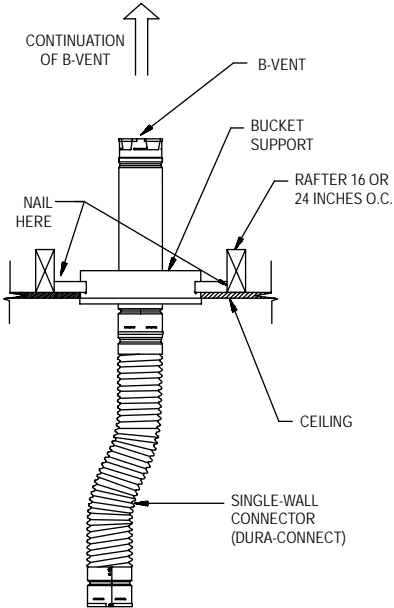

Figure 14
2. Assembly. After you have determined where the B-vent should be located, assemble the Bucket Support and Brackets. Nail the assembly to the bottom side of the joist material as shown in *Figure 14*. After the Support Bucket is in place, scribe and cut out a hole in the sheet rock 1/8" larger than the diameter of the Bucket, and nail into place. Run the Pipe Sections through the hole in the Bucket Support, connect the Dura-Connect Single Wall Connector, and attach the Clamp so that it rests inside the Bucket, and will support the Pipe. Adjust the Pipe to the desired height and tighten the Clamp. This will provide a complete engineered support system.